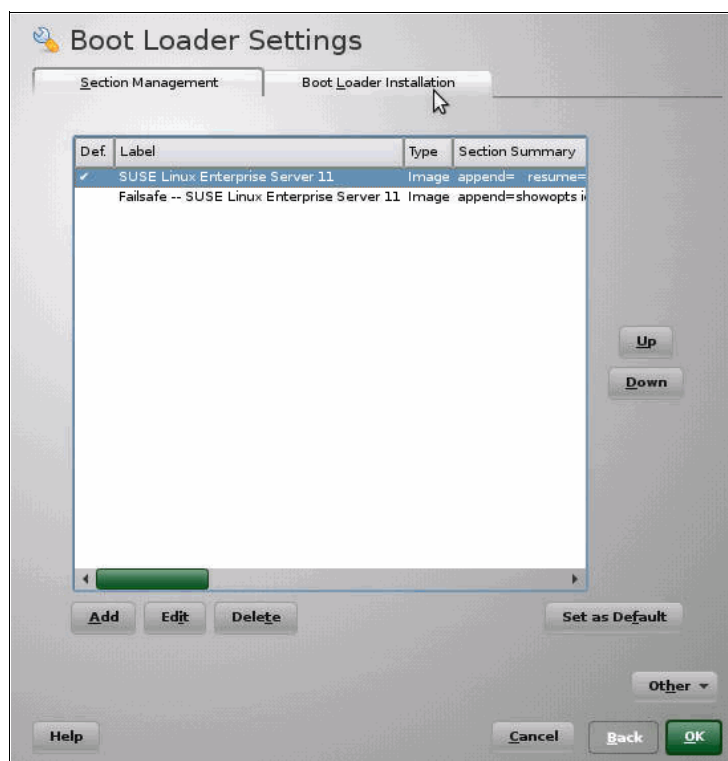

Figure 2-104 Selecting the Boot Loader Installation tab
11. Click the **Boot Loader Installation** tab, as shown in Figure 2-104, select the SUSE Linux Enterprise Server 11, and click **Edit**.